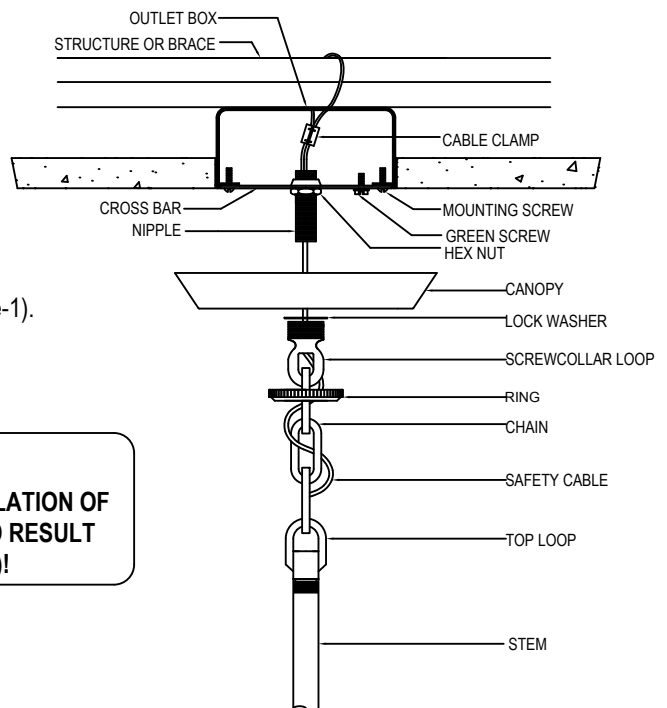

FIGURE-1
1. Attach the **SAFETY CABLE** to the building structure or brace (see figure-1).